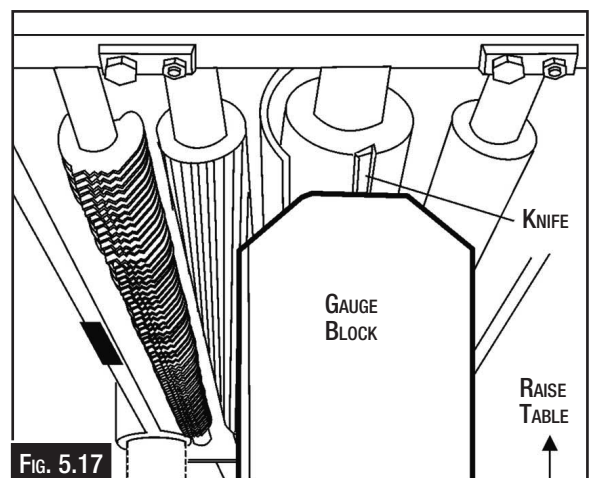

Fig. 5.17
2. Place the gauge block (Fig 5.17) on the work table directly under the edge of a knife as shown. Make slight contact by gently raising table.